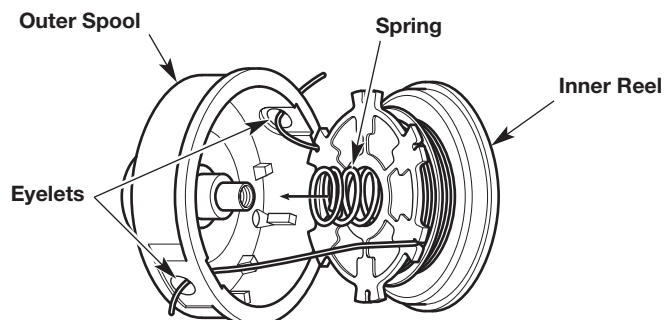

Fig. 20
1. Pass the two line ends through the eyelets in the outer spool (Fig. 20).
2. Place the spring inside the inner reel (Fig. 20).
3. Insert the inner reel into the outer spool (Fig. 20). Push the inner reel and outer spool together.